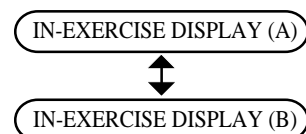

Fig. 3
b) In the "In-Exercise Display", each press of this button converts the screen alternately as Fig. 3.